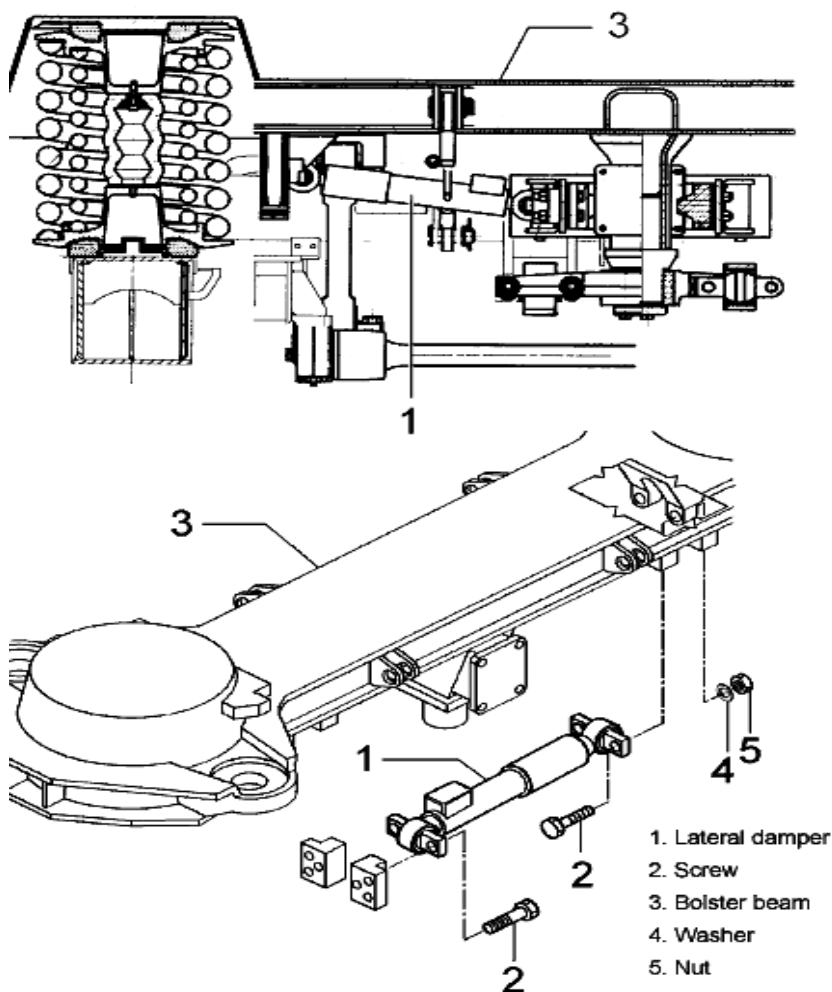

Fig. 3.3 Lateral Dampers Removal
Remove the lateral damper (Fig. 3.3) extracting the screws (2), which fix one end to the bolster beam (3) and the other to the frame. Recover the washers (4) and the nuts (5).